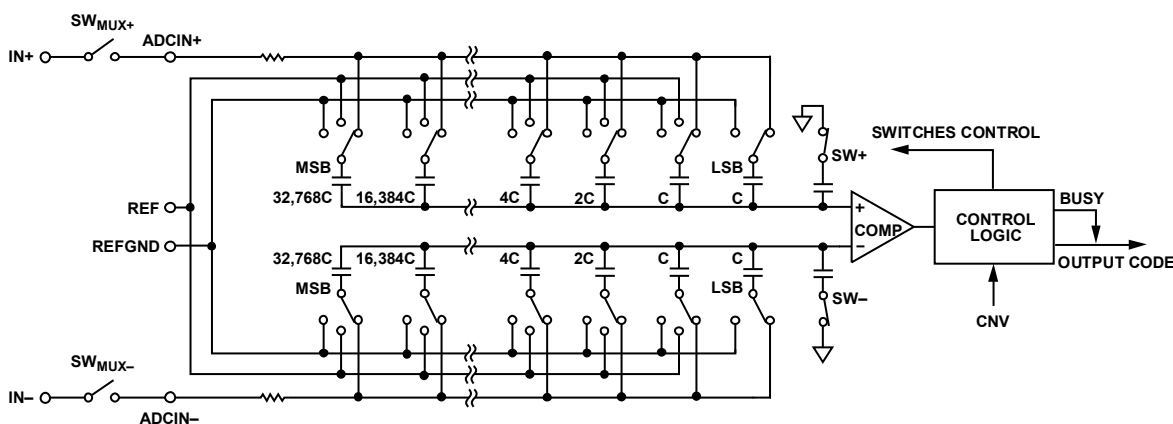
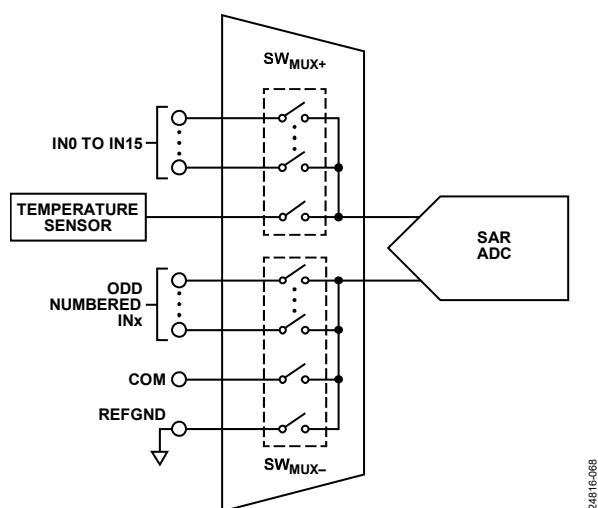
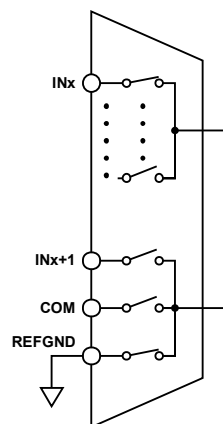

Figure 61. ADC Simplified Schematic
Figure 65. Multiplexer Simplified Schematic
Figure 66. Channel Configuration Option A
The AD4695/AD4696 contain an SAR-based ADC core that utilizes a charge redistribution digital-to-analog-converter (DAC) to quantize the applied input voltage to an output code. Figure 61 shows a simplified schematic of the AD4695/AD4696 SAR ADC core.
The analog inputs and the temperature sensor are connected to the capacitor array inputs (ADCIN+ and ADCIN-) via the internal low crosstalk multiplexer, represented by SW_{MUX+} and SW_{MUX-} in Figure 61. The multiplexer switches are controlled by the internal channel sequencing logic and are updated once per conversion (see the Multiplexer section and the Channel Sequencing Modes section).
A low crosstalk analog multiplexer routes the signals from the analog input pins to the ADC core inputs. The impedance of the analog inputs are modeled as the parallel combination of the pin capacitance (C_{PIN}) and the network formed by the series connection of R_{IN} and C_{DAC} . R_{IN} represents the ADC input series resistance and the multiplexer switch resistance and is typically 240 Ω . C_{DAC} represents the ADC sampling capacitive DAC shown in Figure 61, and is typically 60 pF.
The AD4695/AD4696 contain a flexible, low crosstalk analog multiplexer for selecting from the 16 analog inputs and internal temperature sensor and routing them to the inputs of the 16-bit, pseudo differential SAR ADC core. Figure 65 shows a simplified schematic of the internal multiplexer. The SW_{MUX+} and SW_{MUX-} switches shown in Figure 61 and Figure 65 represent the multiplexer switches that route the selected channel to the ADC inputs (labeled $ADCIN+$ and $ADCIN-$ in Figure 61). SW_{MUX+} and SW_{MUX-} are break-before-make and are controlled by the internal channel sequencing logic (see the Channel Sequencing Modes section).
The multiplexer allows flexible analog input channel configuration. The SW_{MUX-} position is user programmable, and can be assigned to any of the pins shown in Figure 65 (see the Channel Configuration Options section).
The channel configuration settings include pin pairing assignments and signal polarity modes. The pin pairing options assign the position of SW_{MUX-} for each position of SW_{MUX+} and determine which signal is routed to the negative side of the SAR ADC core ($ADCIN-$ in Figure 61). The signal polarity modes configure the $ADCIN-$ voltage range. Figure 66 shows the pin pairing and voltage ranges for the different channel configuration options.
- Figure 66, IN0 to IN15 paired with REFGND
When the temperature sensor is selected, the multiplexer SW_{MUX+} switch (see Figure 65) selects the temperature sensor output and its SW_{MUX-} switch selects REFGND , and the SAR ADC core samples V_{TEMP} to generate a corresponding output code. The analog-to-digital conversion of the temperature sensor output utilizes the same transfer function as an analog input configured in unipolar mode with $\text{OSR} = 1$ (see the Transfer Function section).